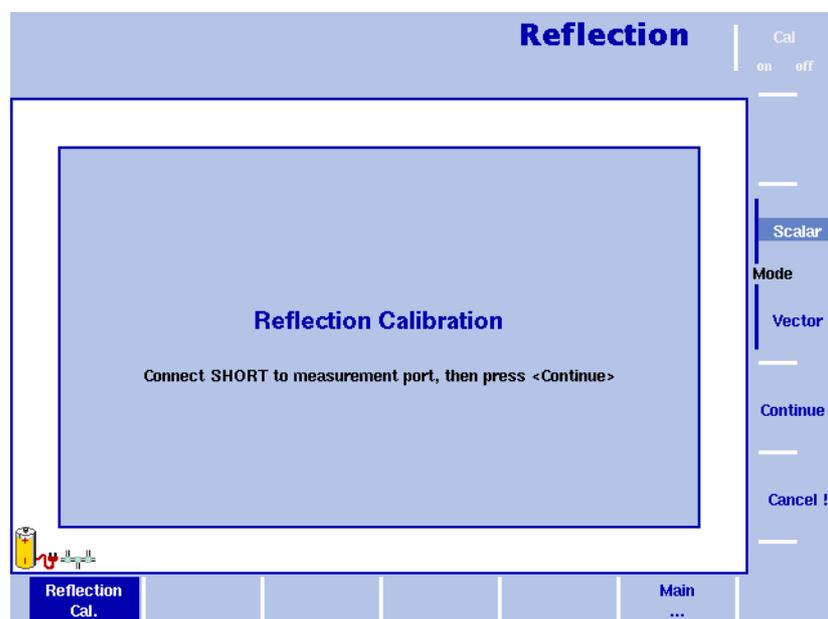

Figure 44 Reflection Calibration menu
- 3 In this menu you can select the mode to be used for your measurement by pressing the **Scalar** or **Vector** softkey. The scalar measurement measures the level of the reflected signal. The vector measurement is even more precise and also measures the phase of the reflected signal. It increases measurement accuracy as well as the return loss measurement range. The 9102 will guide you through the calibration process by onscreen messages as shown in Figure 44. When prompted as shown connect the calibration set to the test port extension cable and press **Continue**. You can abort the calibration process by pressing the **Cancel !** softkey.